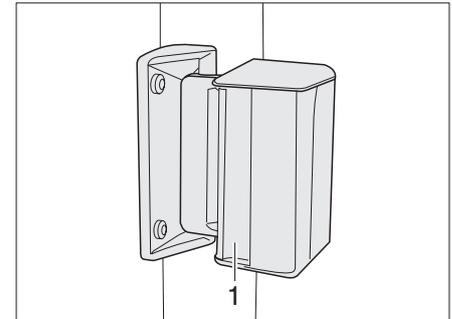

Fig. 17 Sliding window
- ▶ Press the handle (Fig. 17,1) and push or pull it forwards or backwards at the same time.